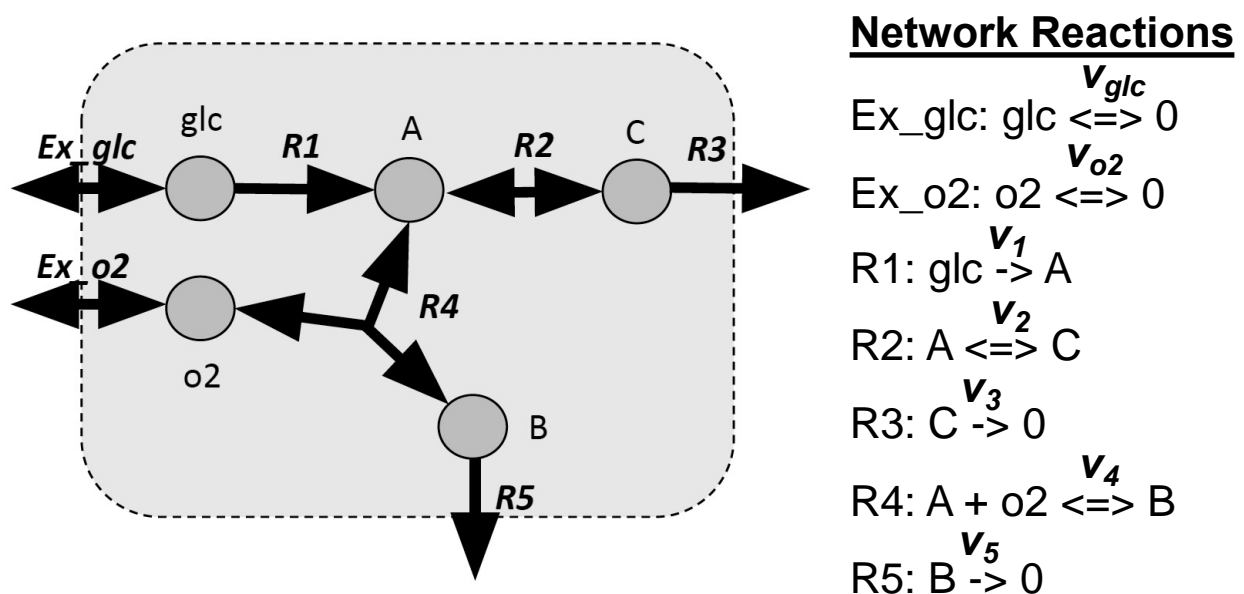

Figure Q2 (d): Metabolic reaction network of a hypothetical cell.
- (d) Consider the metabolic reaction network, as shown in Figure Q2 (d), of a hypothetical cell that uses glucose (glc) and oxygen (o2) to produce a product C. Ex_glc, Ex_o2, R2, and R4 are reversible reactions while the rest are irreversible reactions. The metabolic fluxes through the reactions are represented by v_{glc} , v_{o2} , v_1 , v_2 , v_3 , v_4 , and v_5 , respectively.